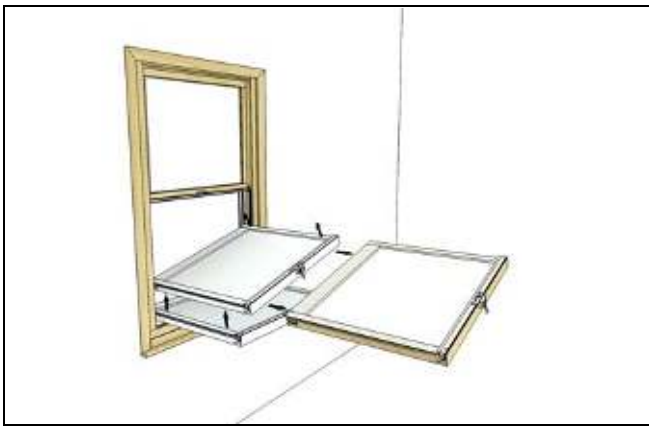

Figure 27
3. Rotate the sash counterclockwise until pins clear the jambs and remove sash. See Figure 27